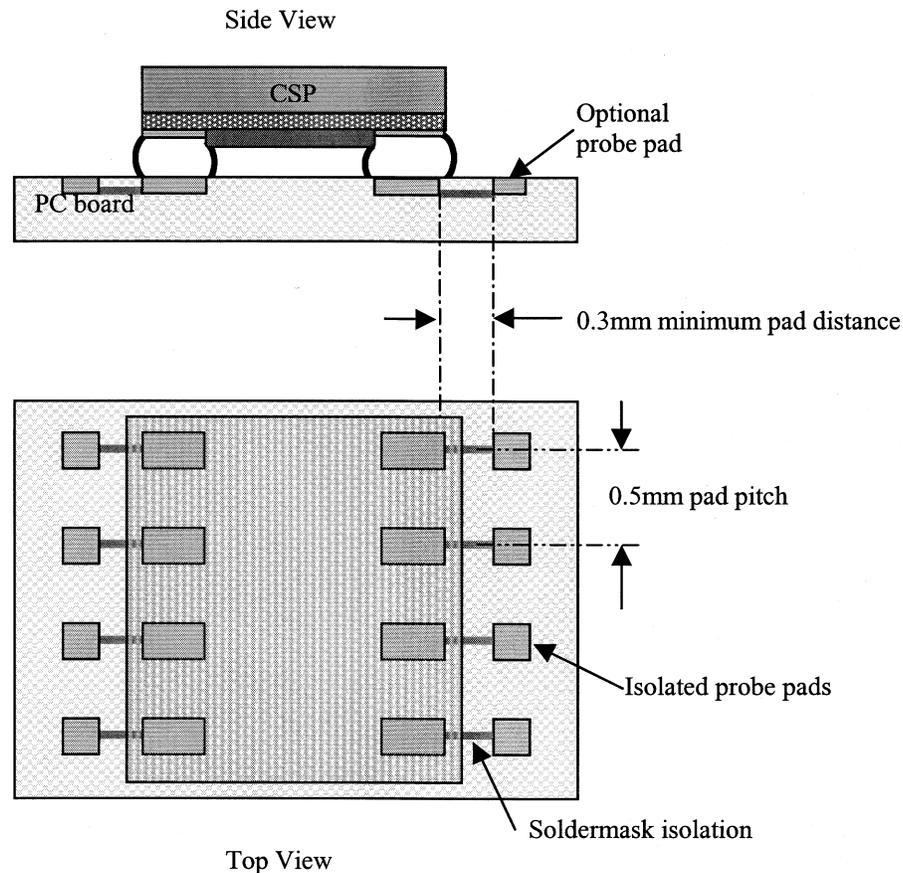

Figure 7. Recommended part placement for Laminate CSP
Laminate CSP and FBGA packages are placed using standard pick & place equipment with $\pm 0.050\text{mm}$ (± 2 mil) placement accuracy, shown in Figure 7. Package pick and place systems comprise of a vision system to recognize and position the component and a mechanical system to physically perform the pick and place operation. Two commonly used types of vision systems for area array packages are (1) a vision system that locates package outline, and (2) a vision system that locates individual bumps on the interconnect pattern. The latter type often renders more accurate placement but tends to be more expensive and time consuming. A misalignment of 50% of the ball size is tolerable for the FBGA. The Laminate CSP has a $\pm 0.250\text{mm}$ (± 10 mil) pad spacing, so the $\pm 0.050\text{mm}$ (± 2 mil) placement accuracy of pick & place equipment is more than acceptable.